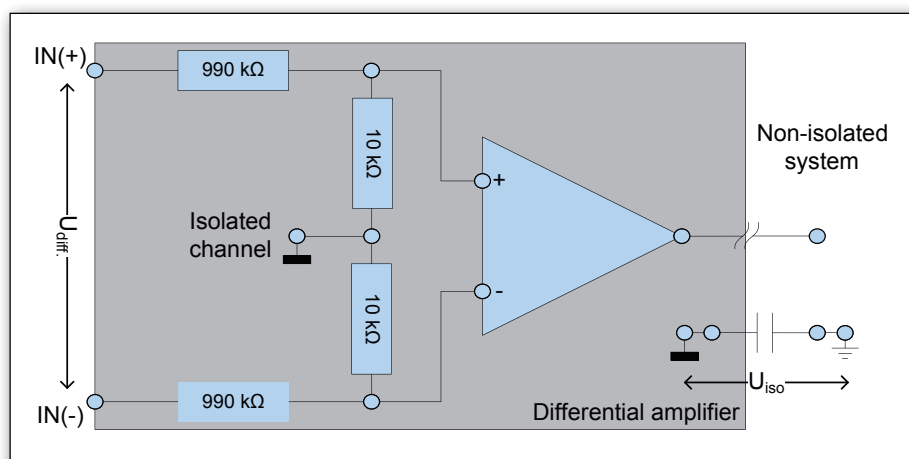
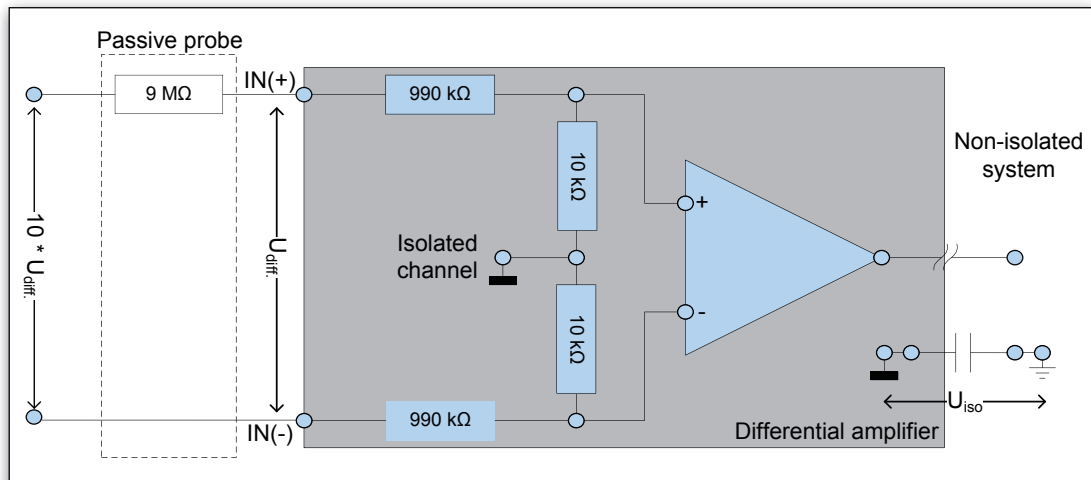

Figure 12.37: Isolated balanced input channel
Figure 12.38: Isolated balanced input channel with passive probe
- The isolated ground is not externally accessible, as shown in Figure 12.37.
Looking at Figure 12.37, the GN610B/GN611B specifies $U_{IN(+)}$, $U_{IN(-)}$ and $|U_{iso}| \leq 1 \text{ kV}$. Using a standard passive 10:1 probe, combined with the GN610B/GN611B results in the situation shown in Figure 12.38.